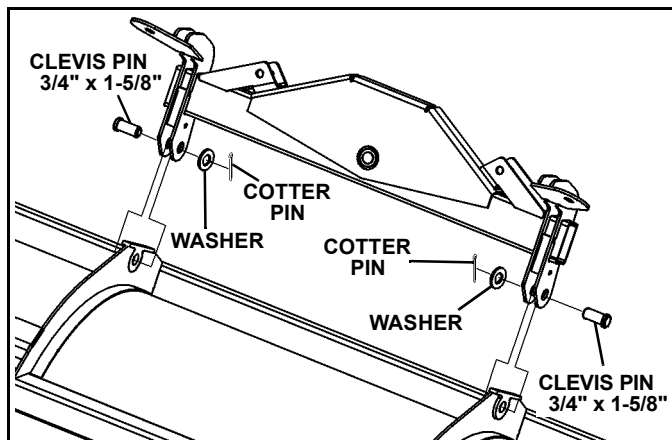

Figure 1-4
4. Place swing frame on blade, positioning the two inside ribs between the swing frame lugs. Insert a $\frac{3}{4}$ " x $1\frac{5}{8}$ " clevis pin from blade parts bag to fasten each side. (See Figure 1-4).